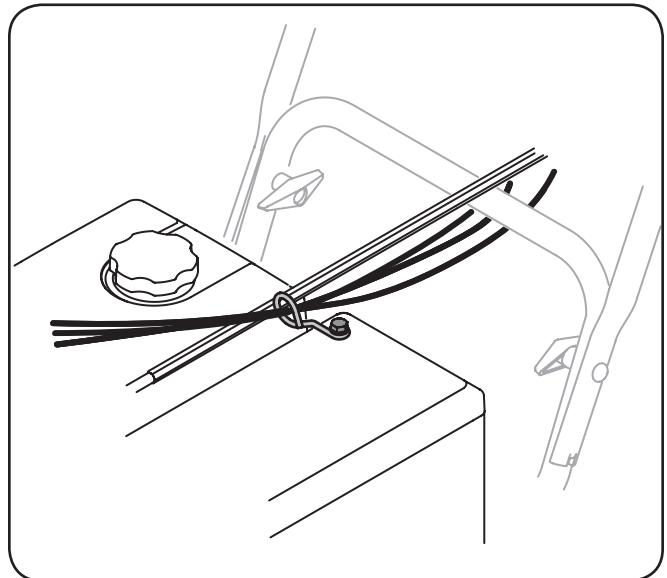

Figure 3-9
- Check that the cables are properly routed through the cable guide on top of the engine. See Figure 3-9.